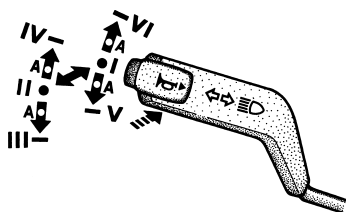

Fig. 4.2. Turn indicator, dimmer and horn switch lever
**5. Turn indicator, dimmer and horn2) switch lever.** The switch lever has six fixed positions (from I to VI) and four non-fixed positions “A” (fig. 4.2 and 4.3).
Pulling the lever repeatedly from position I along the steering column (non-fixed position) switches on headlamp upper beam for a short time. Depressing the switch lever button (in any position of the lever) turns on the horn2) (non-fixed position) – see fig. 4.2.
2) On some of the vehicles the horn is turned on by turn indicator and headlamp switch control lever (see Fig. 4.2).